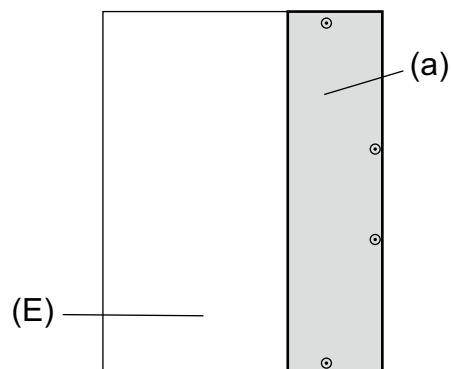

Fig.7
- ♦ To avoid dew condensation, use insulated screws in the places marked with circles in Figure 7.